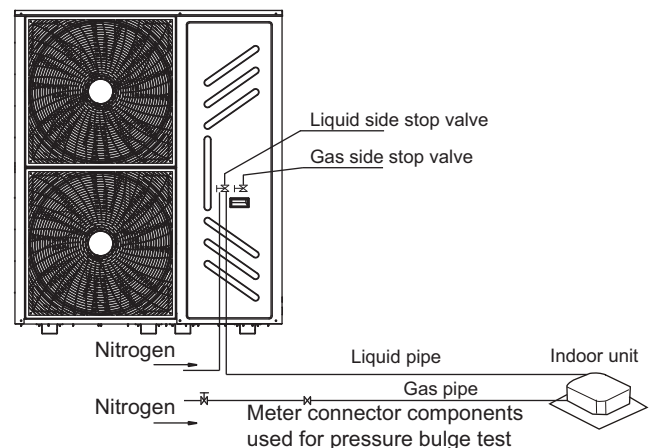

Fig.5-8
- DO NOT pressure to the stop valve directly. (See Fig. 5-8)